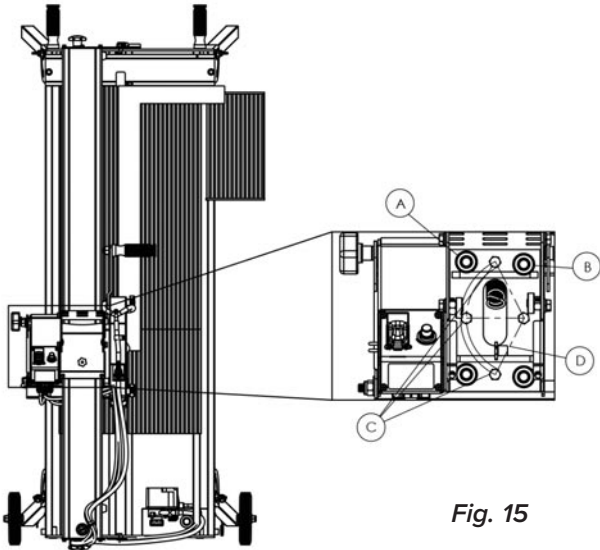

Fig. 15
1. Underneath the carriage cover is four bolts (size 13) that hold the head's two sub-assembly together. The upper assembly is the carriage and the lower assembly is the actual cutting head. The three bolts highlighted by the balloon "C", as shown in figure 15, are the actual bolts that need to be loosened. Only loosen the bolts enough that the lower subassembly can move, changing the blade shaft's orientation. The fourth bolt is the pivoting bolt and does not have to be loosened.
2. If the blade is constantly shifting left, using figure 15 as reference, rotate the cutting head counterclockwise (left).
3. If the blade is constantly shifting right, using figure 15 as reference, the cutting head must be rotated clockwise (right).
NOTE: The cutting head should glide effortlessly across the bridge. Should the head be too tight or too loose, adjust the rollers on the left (balloon "A") using a size 17 wrench to rotate it (see figure 15). Rollers on the right (balloon "B") are fixed so they cannot be adjusted.